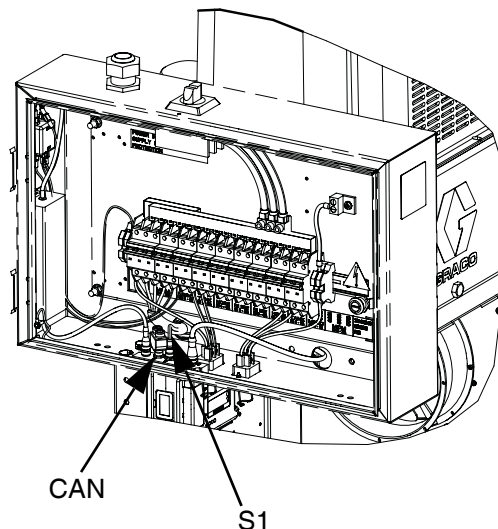

FIG. 17
4. Route signal harness 16K788 (S1), marked 24VDC PWR, to the Power Distribution Box and connect to the CAN extender block (CAN) located on the base of the Power Distribution Box. See FIG. 17 and FIG. 18.